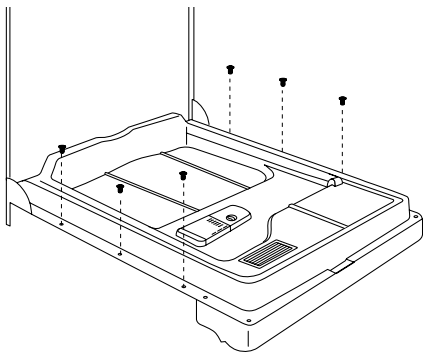

Figure 2
- Remove the 6 screws along the sides of the door (Figure 2) holding the inner door to the outer panel. Retain screws.